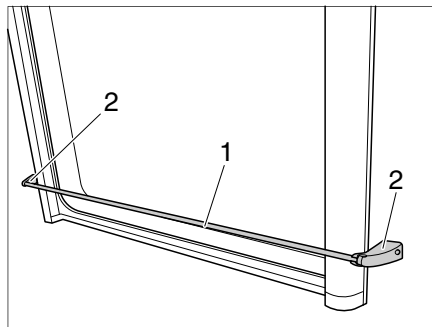

Fig. 89 Fall protection bar
- Grip the fall protection bar (Fig. 89,1) near the two brackets (Fig. 89,2) and pull forwards.
- Clip the fall protection bar (Fig. 89,1) into the two brackets (Fig. 89,2).